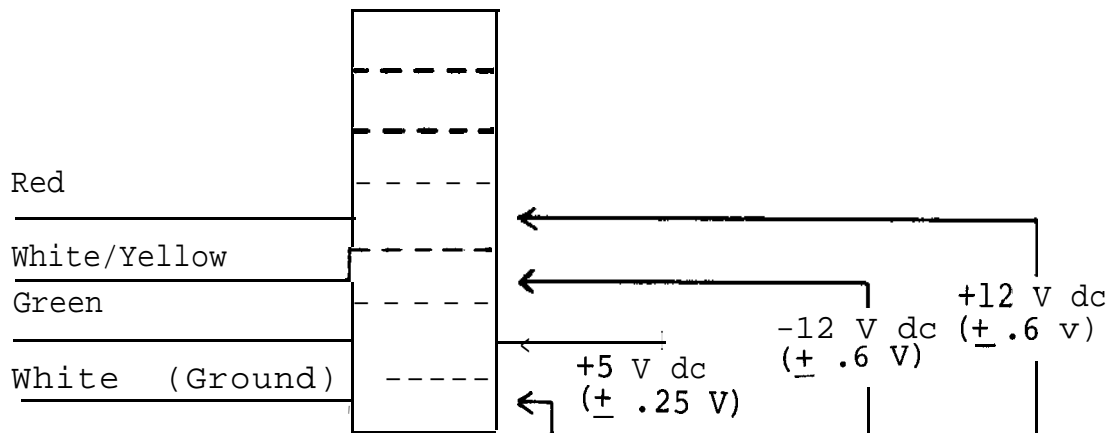

Figure 2-6. Sol-PC power connector and voltage measurements.
- () Check connector on Sol-PC power cable (4 wire) to insure it is wired as shown in Figure 2-6.
- () Measure the voltages at the Sol-PC connector at the points indicated in Figure 2-6. The voltages must be as given in Figure 2-6. NOTE: Do not take voltage measurements at any other points in the power supply, even through they may be more accessible. It is important that the indicator voltages be available at the connector.